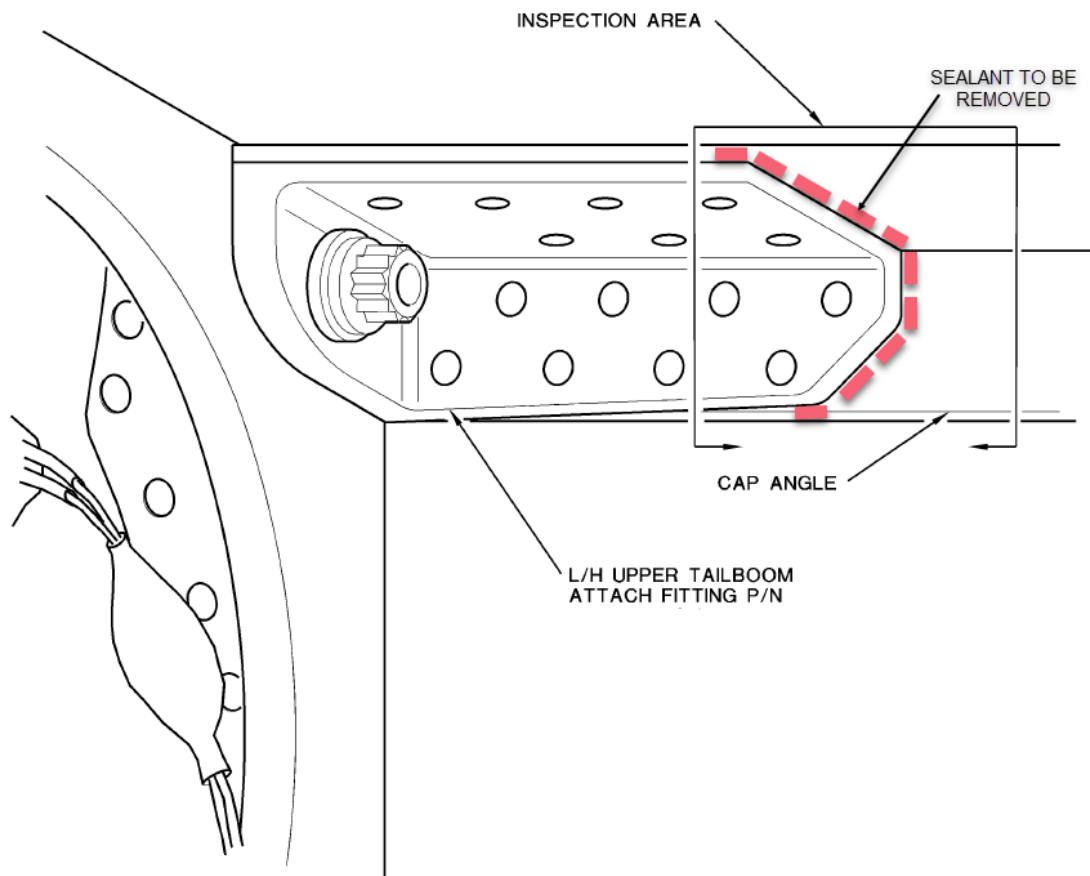

Figure1. Fuselage Tailboom Attachment Inspection.
2. If sealant is present, remove sealant from edge of fitting (Figure 1).